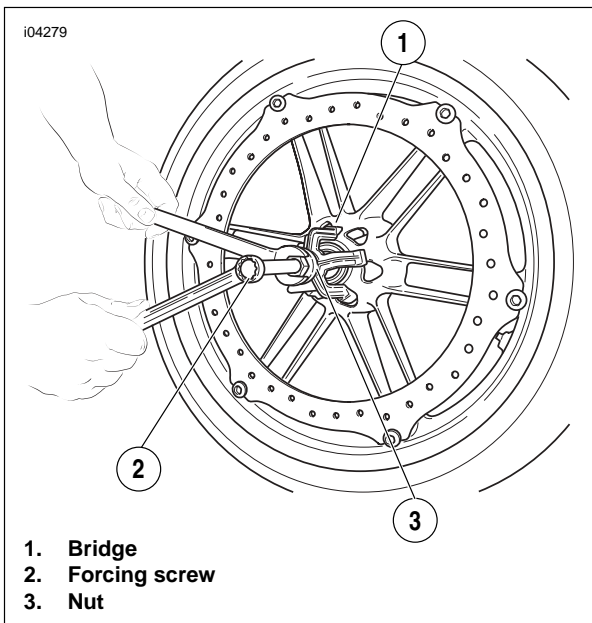

Figure 2-9. Remove the Bearing
8. See Figure 2-9. Place the bridge (1) against the wheel hub.
9. Hold the forcing screw (2), and turn the nut (3) clockwise until the bearing is free of the hub.